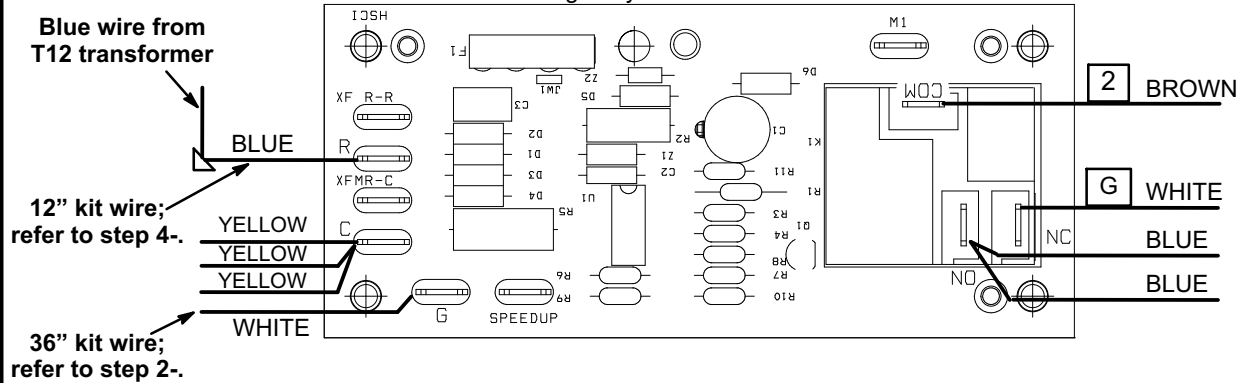

FIGURE 9
- 4- 1853 and Higher Units - Connect 12" blue wire (provided in kit) on replacement relay terminals R. Connect the other end to the blue lead from T12 transformer. Secure with wire nut (provided in kit). See figure 9 and 10.